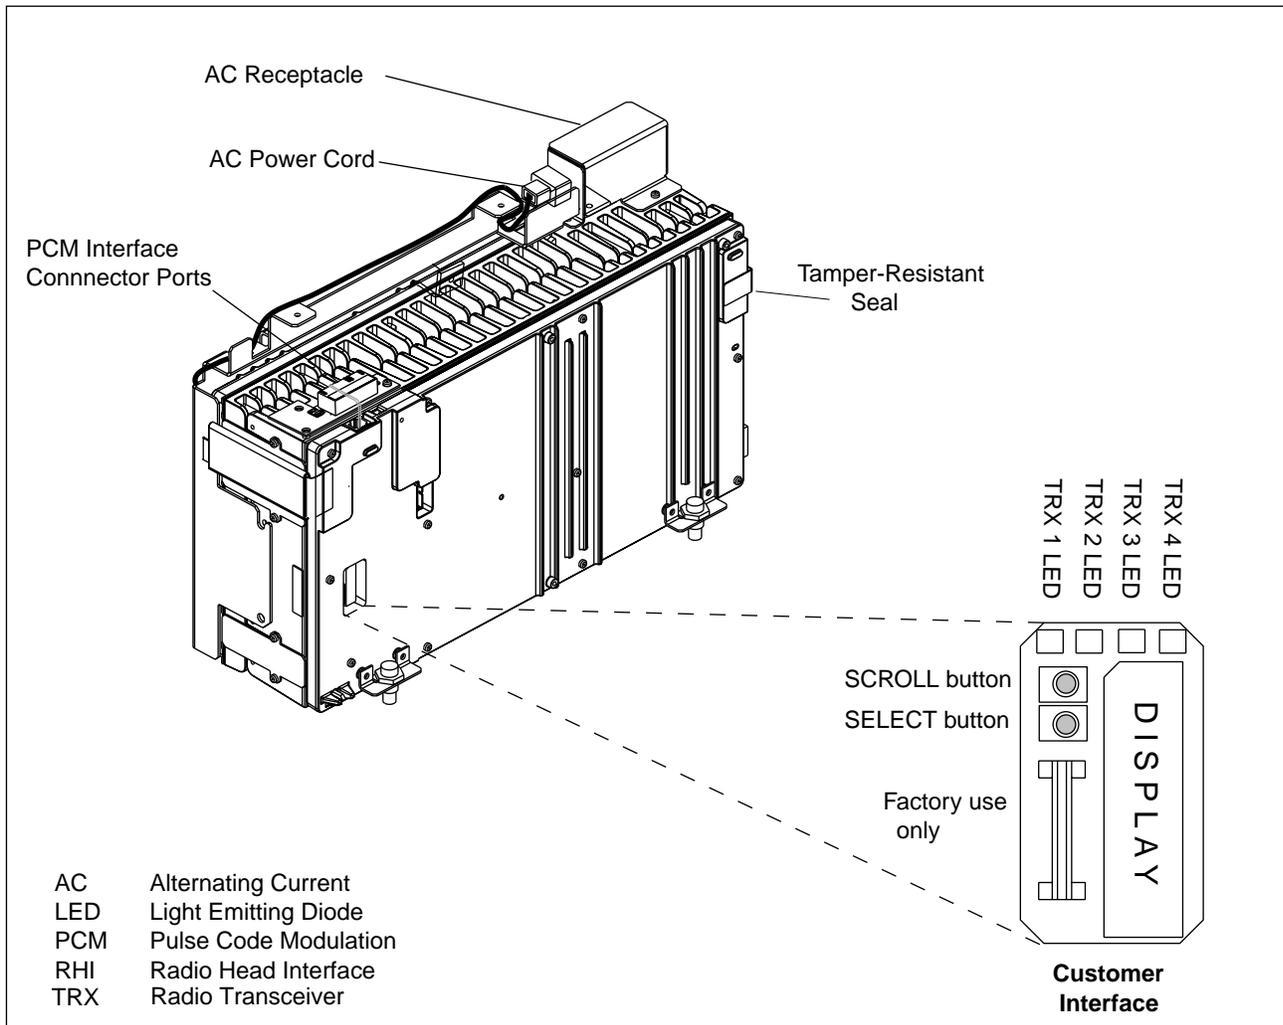

Figure 6-20. Radio Head Customer Interface and LEDs
18. Use the Radio Head customer interface to set the Cabinet Identifier (CABID) number on the new Radio Head. Use the same CABID as the identifier recorded on the old Radio Head in Step 3 on page 6-42. See Figure 6-20 on page 6-49 for the location of the Radio Head customer interface.
Reconnect the AC power cord to the AC receptacle on the Radio Head. See Figure 6-20 on page 6-49 for the location of the AC power cord and AC receptacle.
23. Check the Power/Fault LED on the lower left corner of the Radio Head. See Figure 6-20 on page 6-49 for the location of the Power/Fault LED.